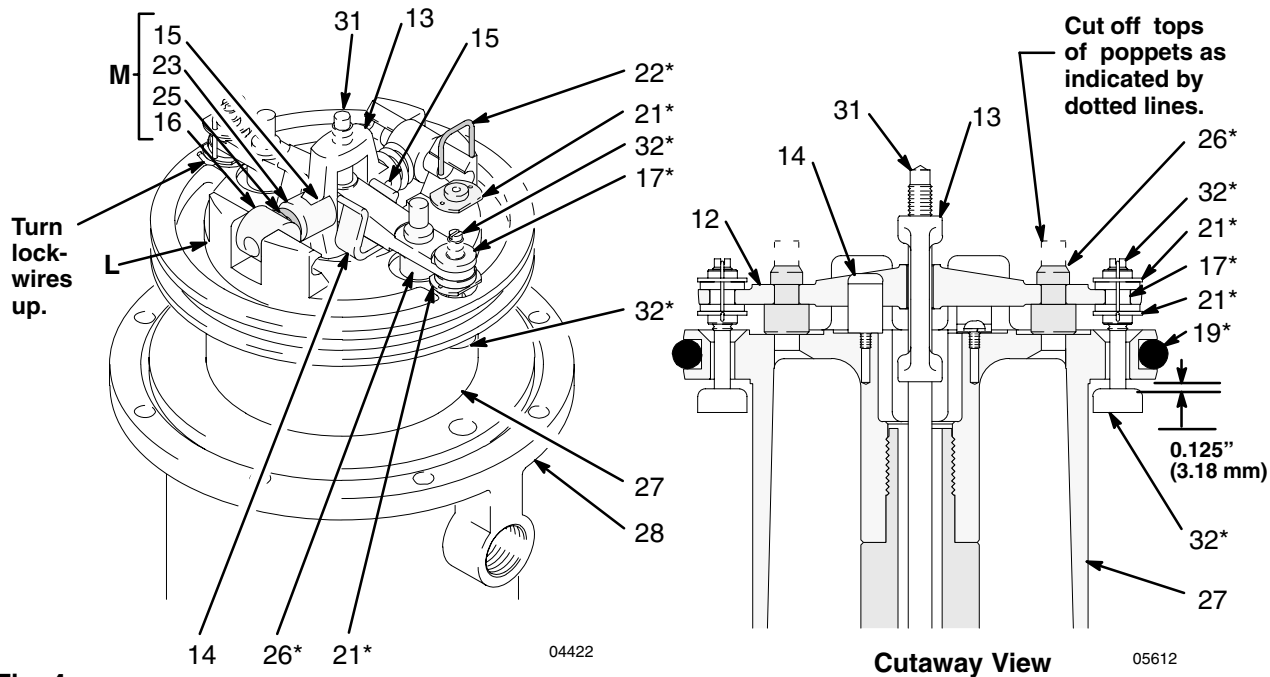

Fig. 4
10. Pull the piston assembly from the air motor base (28), and set it aside.
11. Remove the throat bearing (36) with a 2-in. socket, remove the u-cup seal (10†), and wipe the seat clean with a cloth.
14. Use a screwdriver to push down on the trip rod yoke (13), and snap the toggles down. See Fig. 4.
15. *In this step, while you are prying with the screwdriver with one hand, cover the toggle assemblies with your other hand so as to catch the spring-loaded toggle assemblies when they snap out of the lugs.* Place the tip of a screwdriver into the piston between the piston lugs (L) below the pivot pins (16) on the toggles, pry up with the screwdriver handle to compress the springs on the toggle assembly (M) up and away from the piston lugs, and remove the parts. See Fig. 4.
16. Straighten the lockwires (22*) and remove them from the valve nuts (21*). Screw the top nuts off. Remove the trip rod yoke (13), actuator (12), and trip rod (31). Unscrew the bottom nuts (21*), and remove the poppets. Make sure the valve bar spring clips (14) are not worn or damaged and that they properly guide the actuator (12).
17. Remove the exhaust valve poppets (26) by cutting them with a side cutter, then pull them out of the actuator (12).
To reduce the risk of pinching or amputating your fingers, keep your fingers clear of the toggle assemblies when you are snapping the toggles (M in Fig. 4) up or down.
1. Place the piston rod (29) flats in the vice with the air motor up.
2. Pull the exhaust valve poppets (26*) into the valve actuator (12), and clip off the top parts of the poppets (shown with dotted lines in the **Cutaway View** in Fig. 4).
3. Install the grommets (17*) in the actuator (12), place the inlet valve poppets (32*) in the piston, and thread the bottom valve nuts (21*) onto the inlet valve poppets until there are a few threads left before the threads run out.
4. Grease heavily and place the trip rod (31) in the piston, place the actuator (12) in the yoke (13), and place the well-greased actuator/yoke assembly in the piston, with the trip rod going through the center holes of the actuator and yoke and the inlet valve poppets (32*) going through the grommets (17*).
6. Install the toggle pins (15) in the yoke (13), place the toggle arm (23) ends of the toggle assembly (M) onto the toggle pins, and snap the pivot pin (16) ends of the toggle assembly into the lugs (L).
7. Measuring with the gauge (Part No.171818), create 0.125-in. (3.18 mm) of clearance between the inlet valve poppets (32*) and the piston seat when the inlet valve is open. See the **Cutaway View** Fig. 4.